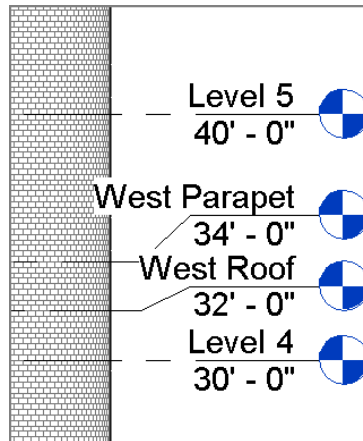

FIGURE 3.23: Adding two new levels for the west side of the building
9. Rename the 2'-0" (600mm) offset **West Roof** (see Figure 3.23), and click Yes to rename corresponding views. You'll have to add elbows to the levels to see the names and elevations.